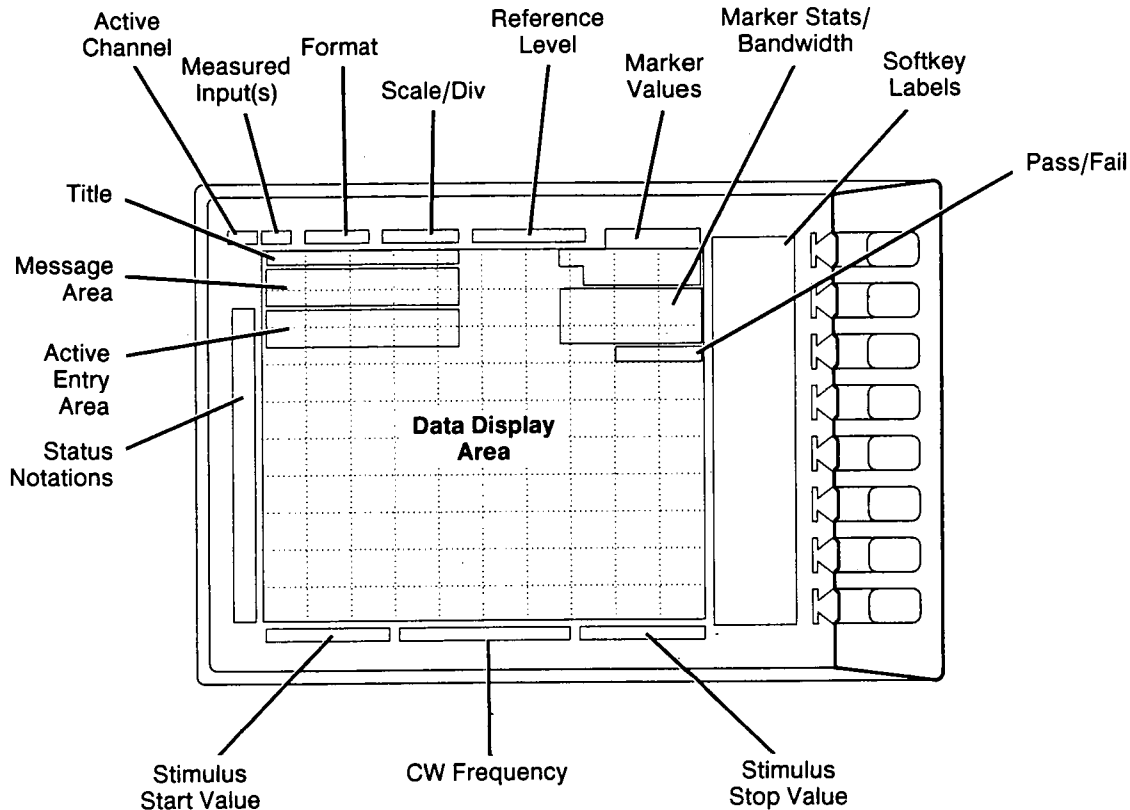

Figure 2-4. CRT Display (Single Channel, Cartesian Format)
2. **CRT Display** shows the of data traces, measurement annotation, softkey labels, and other information. The display is divided into specific information areas (see figure 2-4).
The CRT displays the grid on which the measurement data is plotted, the currently selected measurement traces, and other information describing the measurement. Figure 2-4 illustrates the locations of the different CRT information labels, described below.
In addition to the full-screen display shown in Figure 2-4, a split display is available, as described under *[DISPLAY] Key, Display More Menu* in Chapter 4. In this case, information labels are provided for each half of the display.